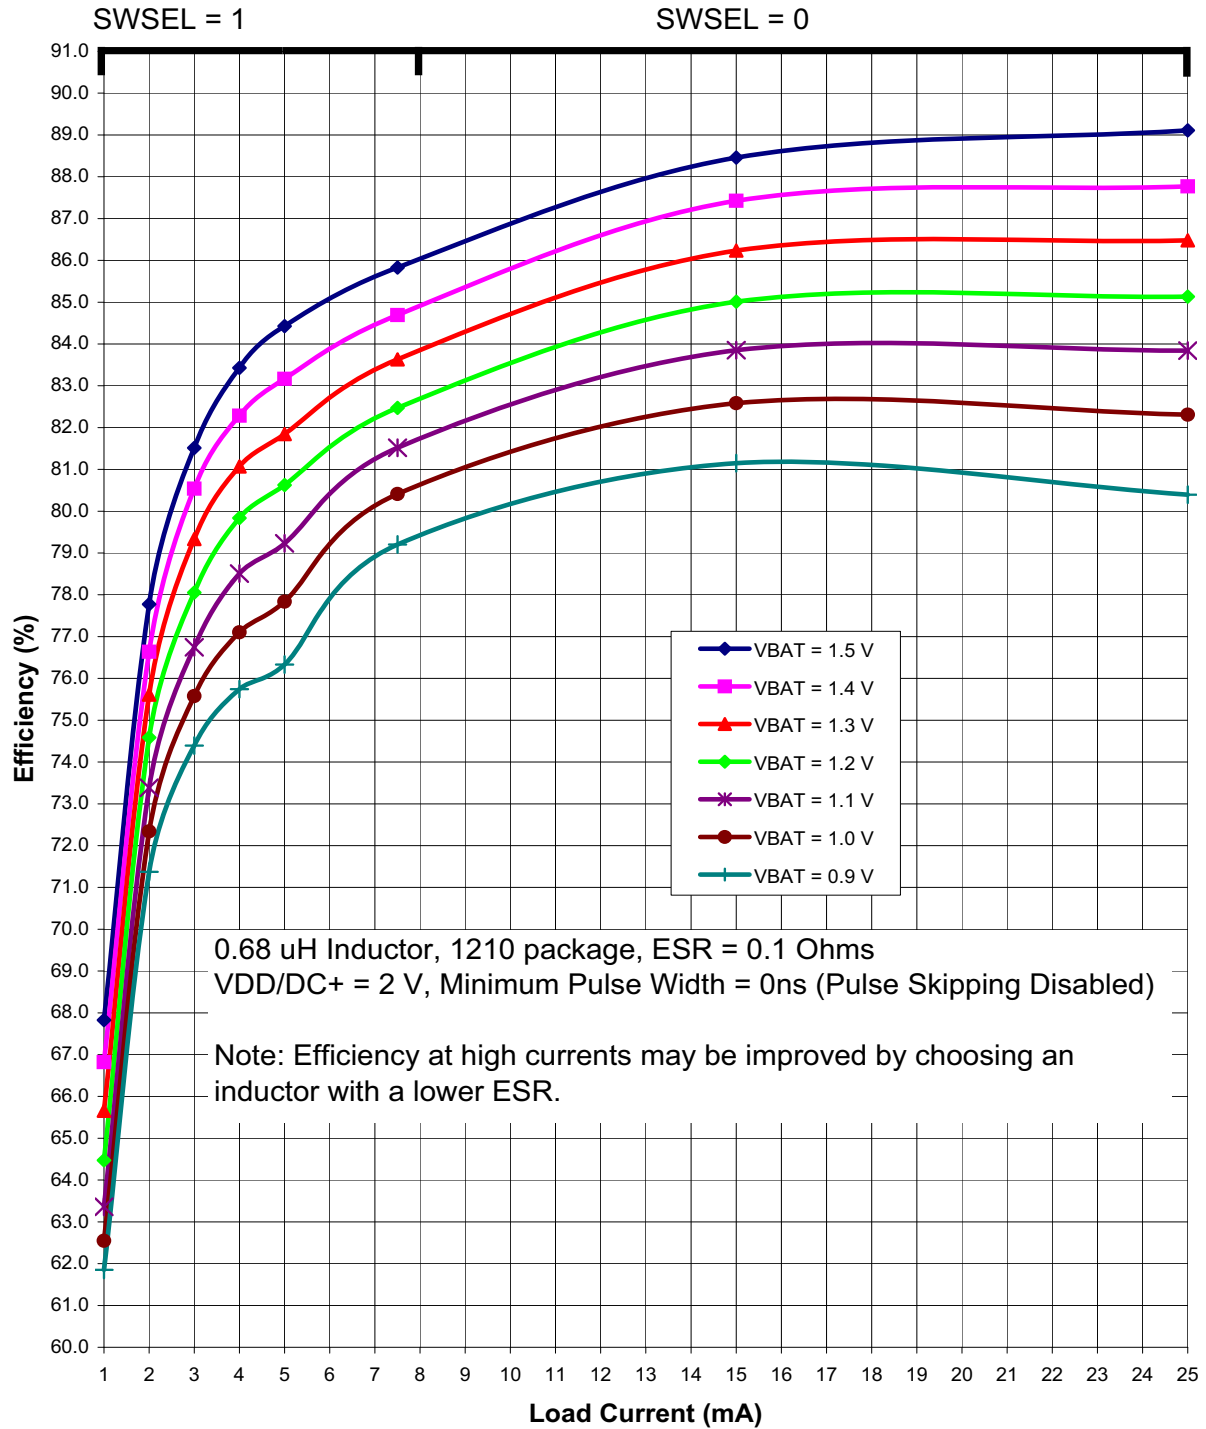
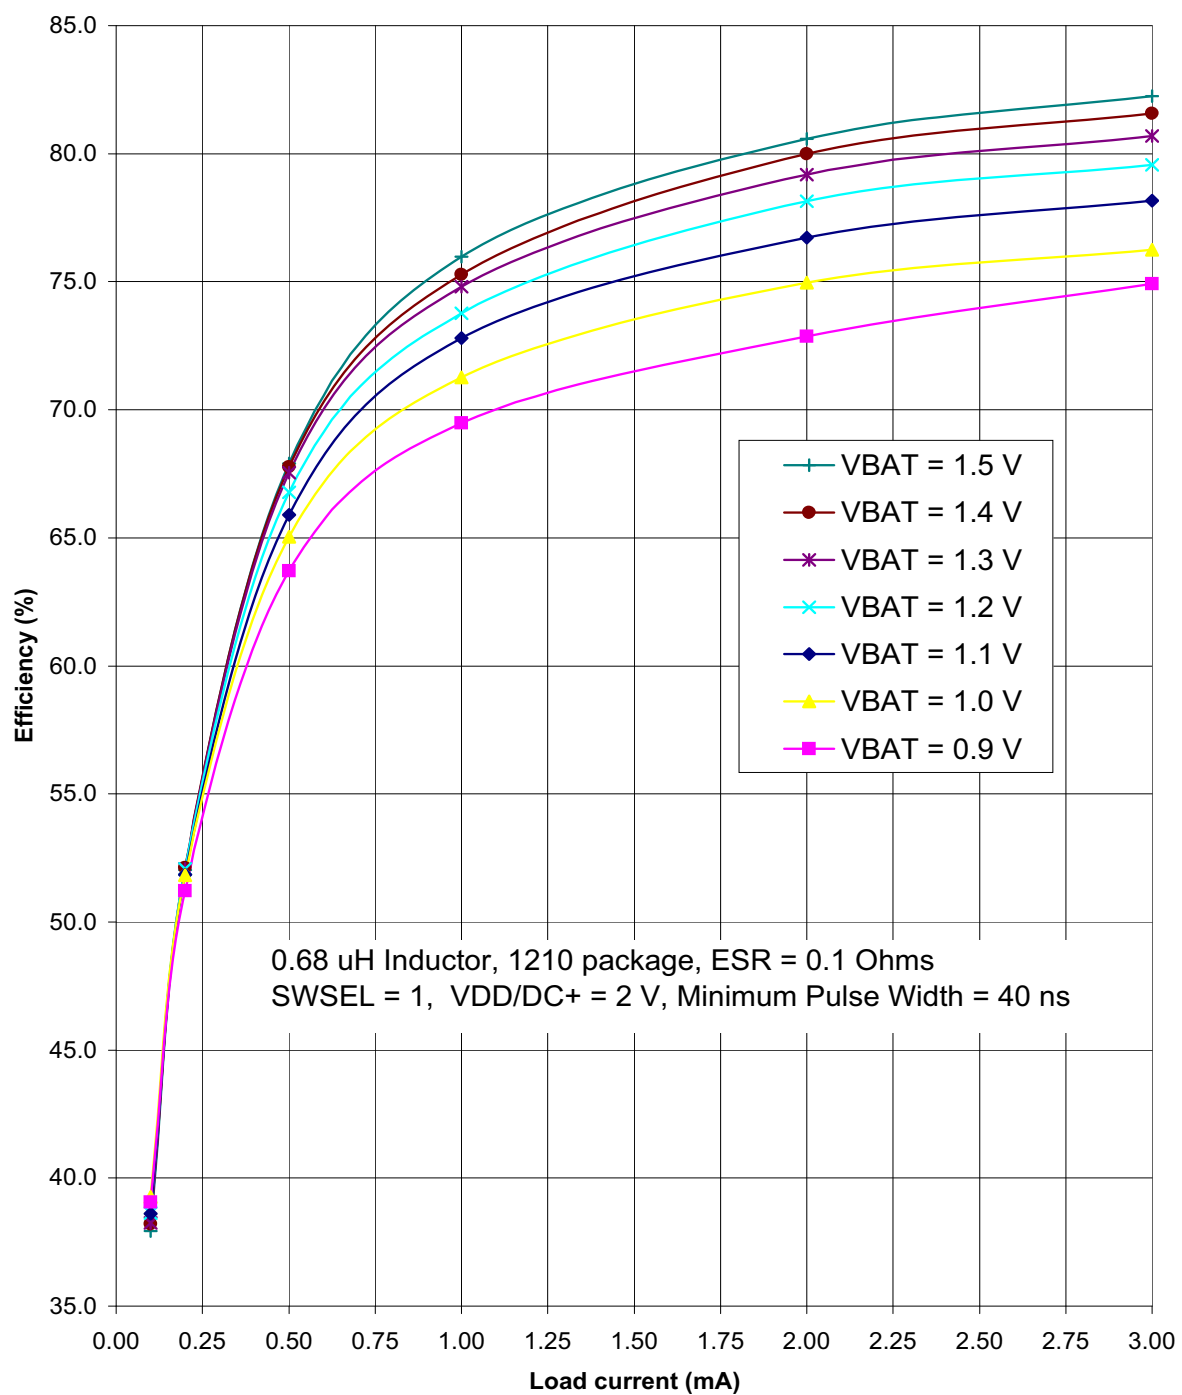

Figure 4.3. Typical DC-DC Converter Efficiency (High Current, VDD/DC+ = 2 V)
Figure 4.5. Typical DC-DC Converter Efficiency (Low Current, VDD/DC+ = 2 V)
Notes: - Based on device characterization data; Not production tested. - SYSCLK must be at least 32 kHz to enable debugging. - Digital Supply Current depends upon the particular code being executed. The values in this table are obtained with the CPU executing an "sjmp \$" loop, which is the compiled form of a while(1) loop in C. One iteration requires 3 CPU clock cycles, and the Flash memory is read on each cycle. The supply current will vary slightly based on the physical location of the sjmp instruction and the number of Flash address lines that toggle as a result. In the worst case, current can increase by up to 30% if the sjmp loop straddles a 64-byte Flash address boundary (e.g., 0x007F to 0x0080). Real-world code with larger loops and longer linear sequences will have few transitions across the 64-byte address boundaries. - Includes oscillator and regulator supply current. - IDD can be estimated for frequencies ≤ 14 MHz by simply multiplying the frequency of interest by the frequency sensitivity number for that range, then adding an offset of 90 μA. When using these numbers to estimate I_{DD} for > 14 MHz, the estimate should be the current at 25 MHz minus the difference in current indicated by the frequency sensitivity number. For example: $V_{DD} = 3.0$ V; $F = 20$ MHz, $I_{DD} = 4$ mA – $(25 \text{ MHz} - 20 \text{ MHz}) \times 0.102 \text{ mA/MHz} = 3.5$ mA assuming the same oscillator setting. - The supply current specifications in Table 4.2 are for two cell mode. The VBAT current in one-cell mode can be estimated using the following equation: $\text{VBAT Current (one-cell mode)} = \frac{\text{Supply Voltage} \times \text{Supply Current (two-cell mode)}}{\text{DC-DC Converter Efficiency} \times \text{VBAT Voltage}}$ The VBAT Voltage is the voltage at the VBAT pin, typically 0.9 to 1.8 V. The Supply Current (two-cell mode) is the data sheet specification for supply current. The Supply Voltage is the voltage at the VDD/DC+ pin, typically 1.8 to 3.3 V (default = 1.9 V). The DC-DC Converter Efficiency can be estimated using Figure 4.3–Figure 4.5. - Idle IDD can be estimated by taking the current at 25 MHz minus the difference in current indicated by the frequency sensitivity number. For example: $V_{DD} = 3.0$ V; $F = 5$ MHz, Idle $I_{DD} = 2.1$ mA – $(25 \text{ MHz} - 5 \text{ MHz}) \times 0.079 \text{ mA/MHz} = 0.52$ mA.